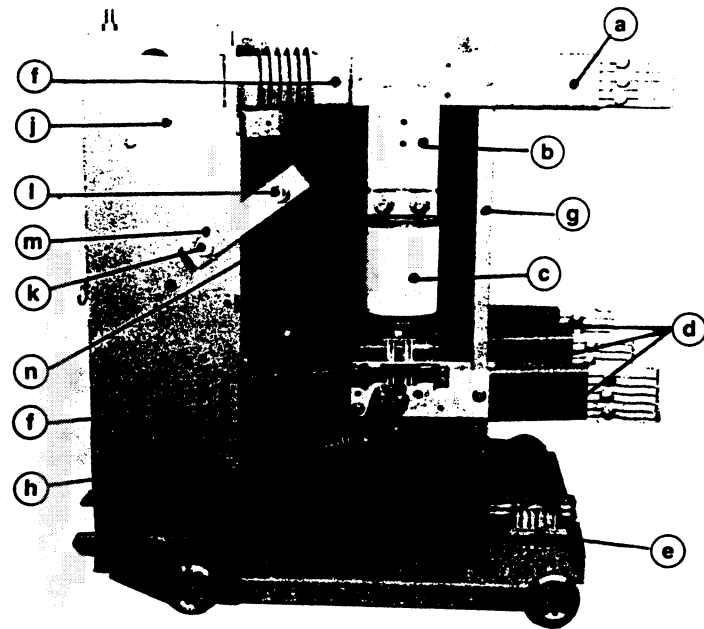

Figure 1. Side View of POWL-VAC Circuit Breaker
A. GENERAL (Figure 1)
When the close latch is released, either under the action of the closing solenoid or the manual close plate, the closing spring pulls the cam shaft around, and the main closing cam moves the main linkage into the closed position. The main linkage rotates the center lever of the drive jack shaft. The jack shaft has 3 downward-pointing pairs of levers to which are attached the operating rods. The operating rods, which are approximately horizontal, are moved towards the vacuum interrupter by the rotation of the jack shaft (Figure 1).